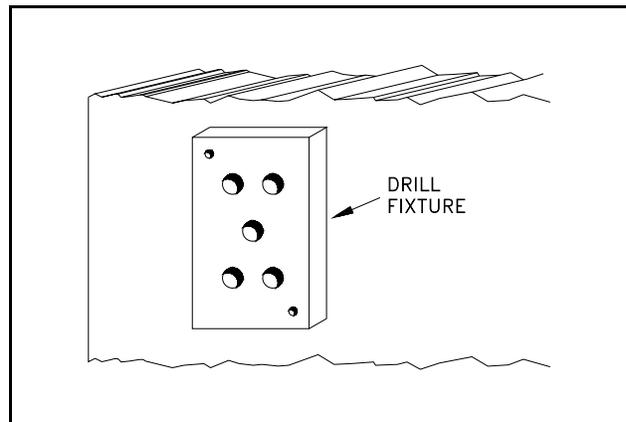

Figure 19. Drill Fixture.
- 7) Mount the strain link as shown in Figure 19. Make certain that the washers provided with the strain link kit are placed over the strain links. Torque the 1/4 x 28 bolts to 150 in-lbs. A calibrated torque wrench is the preferred tool to torque the bolts.